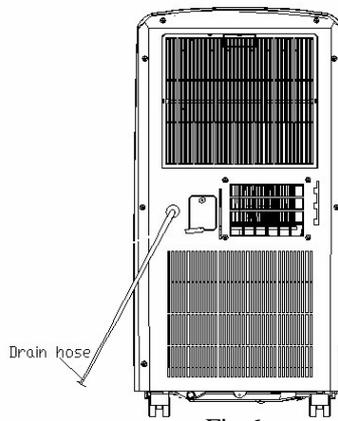

Fig.6
- As shown in Fig. 6, connect water pump drain hose well.